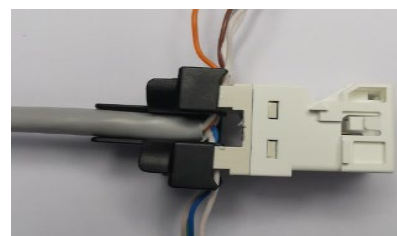

Figure 5
3.5 Orient the jack so that the color coding on the jack mates with proper conductor of lacing fixture. Insert the jack into the lacing fixture until it is engaged by approximately 4mm [.160 in.]. See Figure 5.